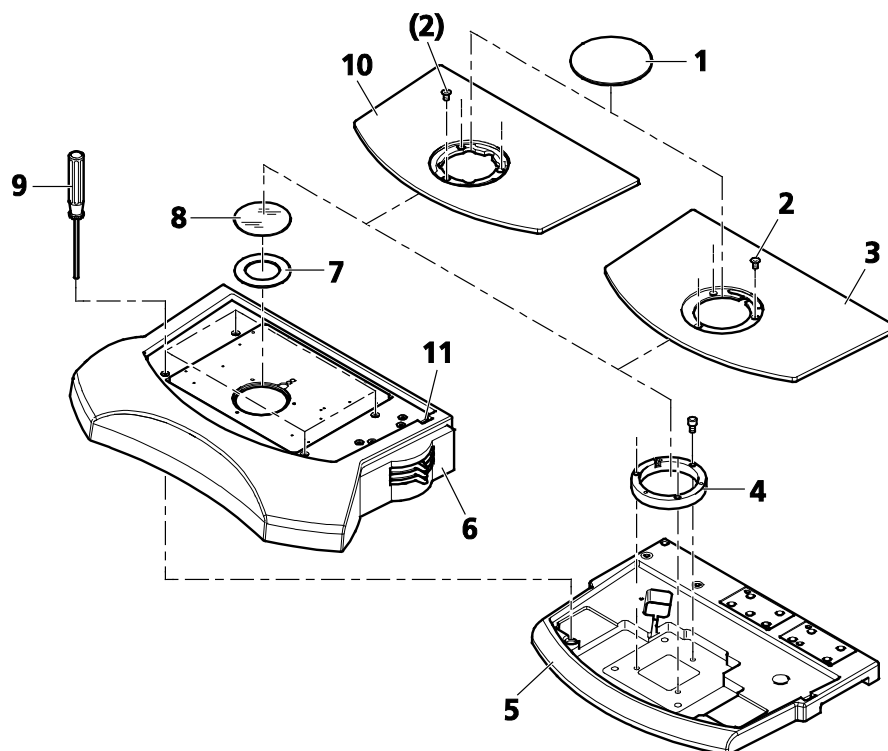

Fig. 20 Mounting transmitted light unit S
- Remove the base insert plate (Fig. 20/3). To do this loosen the short socket head screws (Fig. 20/2), lift the insert plate (use recessed grip on the right edge of stand base (Fig. 20/5) for the purpose) and lift securely with both hands.
- Loosen the three socket head screws (SW 3) on the adapter ring (Fig. 20/4) using a ball-headed screwdriver and remove the adapter ring.
- Insert the transmitted light unit (Fig. 20/6) onto the stand base. The two large plastic taper pins on the bottom of the transmitted light unit must click into the stand base.
- Use the ball-head screwdriver (Fig. 20/9) to screw down the four countersunk socket head screws (SW 3) hand-tight on the transmitted-light unit.
- Lay the base insert plate (Fig. 20/3) onto the transmitted light unit (Fig. 20/6).
- Insert the opal glass plate \varnothing 84 mm (Fig. 20/8) to prevent screws and other small parts from being lost in the course of further installation work.
- Use the three short socket head screws (Fig. 20/2) to fasten the base insert plate (Fig. 20/3) (without stage adapter) to the transmitted-light equipment.
- Replace the opal glass plate \varnothing 84 mm (Fig. 20/8) with insert 52/84 (Fig. 20/7).
- Insert glass plate 120 mm (Fig. 20/1); press on rear edge to remove it again.
- Remove glass or B/W plate (Fig. 20/8) and insert 52/84 (Fig. 20/7).
- Remove the base insert plate (Fig. 20/3). To do this, loosen the short socket head screws (Fig. 20/2).
- Install the ferromagnetic insert plate 450 (Fig. 20/10) or heatable insert plate 450 and secure with three socket head screws.
-  If the heatable ferromagnetic insert plate 450 is used, pass the two heating cables side-by-side through the cut-out in the insert plate and secure with three clamps. Then pass the two heating cables to the outside through the lateral cavity (Fig. 20/11) in the transmitted light unit S and connect to controller SC 300.